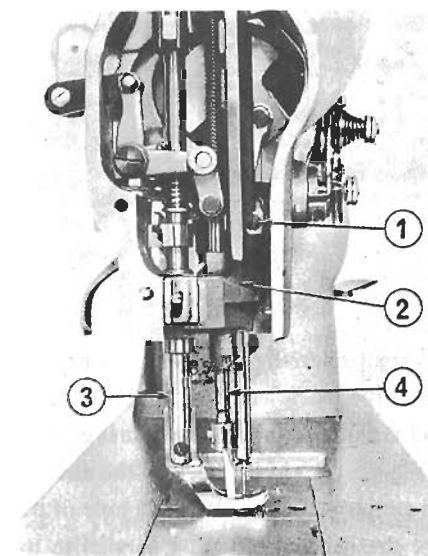

Fig. 17
The relative position of the needle bar frame (Fig. 17 ②) with that of the presser bar (Fig. 17 ③) is correct when, with the stitch length at "0", the clearance between the presser bar and the working foot bar (Fig. 17 ④) comes to 8.54 mm (21/64"). (Fig. 17)
To adjust the height of the needle bar, loosen the needle bar clamping screw (Fig. 17 1) and move the needle bar up and down. When proper adjustment is made, firmly re-tighten the clamping screw.